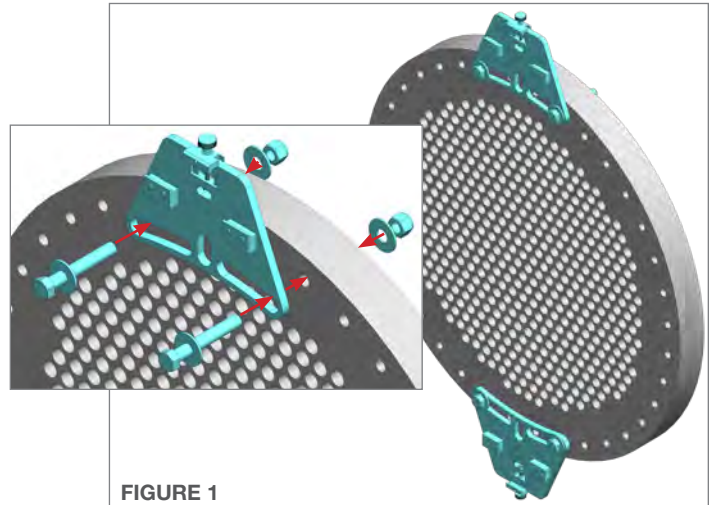

FIGURE 1
1. Mount the appropriate frame **Positioner Clamps** to the tube bundle as shown in Figure 1. (Shown with Plate Clamps) Positioner Clamps should be Parallel to the direction of the tube rows. **(Figure 1)**